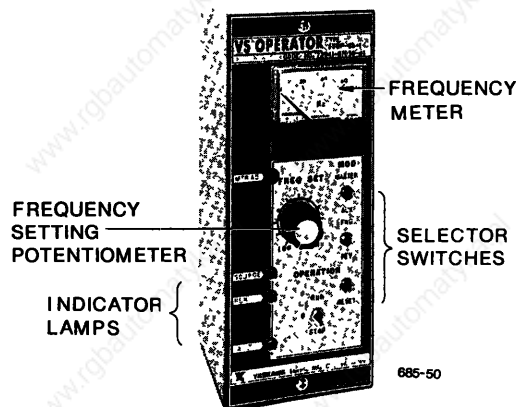

Fig. 18 VS Operator (Optional)
5.3.3 Use of VS Operator Model JVOP-65 (Optional) (Fig. 18)